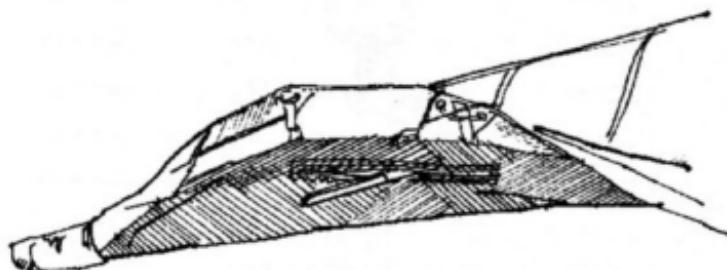

Fig. 5
2.2.3. Install the small mast on the LE-tubes/X-beam junction to it's proper place. Dive sticks must be outside of sail. (Fig. 5).